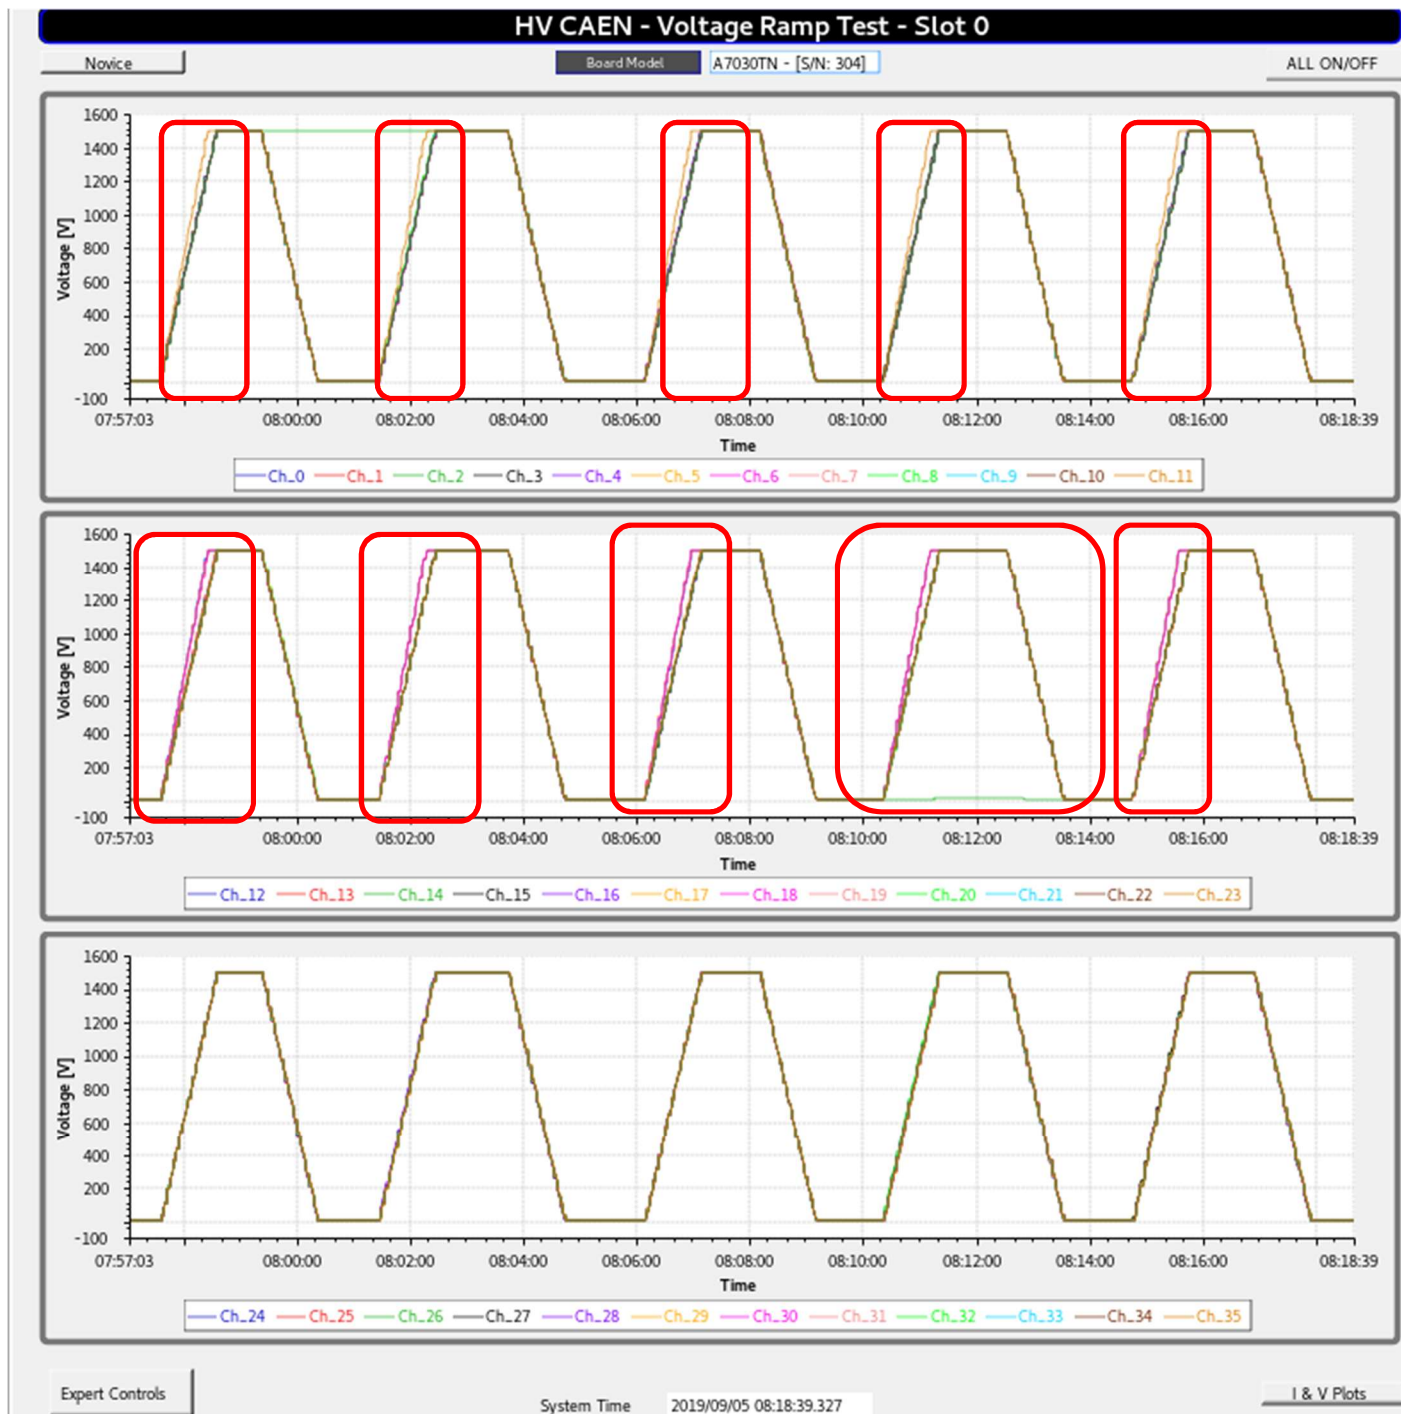

Fig.5 — *Voltage Ramp Test CSS-BOY* screen shows test 1.1 results. Red rounded rectangles focus the issues found
1. Channel 11, 12, 17 and 18 did not change PV associated with ramp up parameter (*Rup*) to set value 25 V/s after JavaScript to set all channels to same value was executed. See fig.5.
2. Channel 2 did not ramp down; PV associated with Pw parameter (Power on/off channel) did not change from 1 to 0 after JavaScript was executed as part of *Expert Controls CSS-BOY* screen. See fig.5.
3. Channel 14 did not ramp up; PV associated with Pw parameter did not change from 0 to 1 after JavaScript was executed as part of *Expert Controls CSS-BOY* screen. See fig.5.